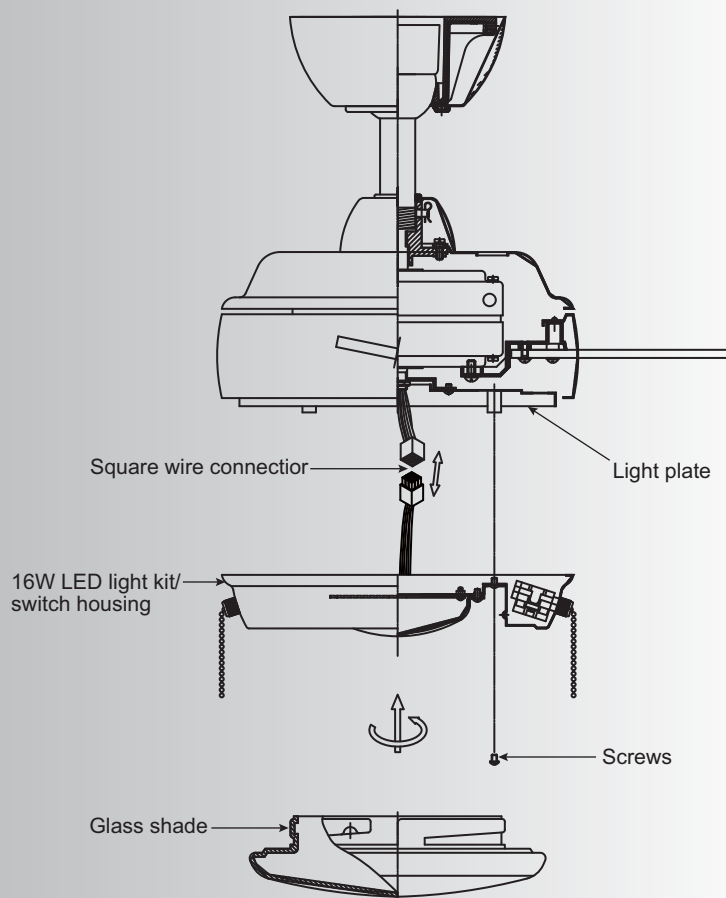

Fig. 16
Step 1. Loosen the three mounting screws on the inside of the 16W LED light kit/switch housing. (Fig.16)
Step 3. Tuck the connections neatly into the light plate. Place the key holes on the 16W LED light kit/switch housing over the 2 screws previously loosened from the light plate, turn the 16W LED light kit/switch housing until it locks in place at the narrow section of the key holes. Secure by tightening all three screws. (Fig.16)
Step 4. Raise the glass shade against the 16W LED light kit/switch housing and turn clockwise until snug, DO NOT OVERTIGHTEN. (Fig. 16)